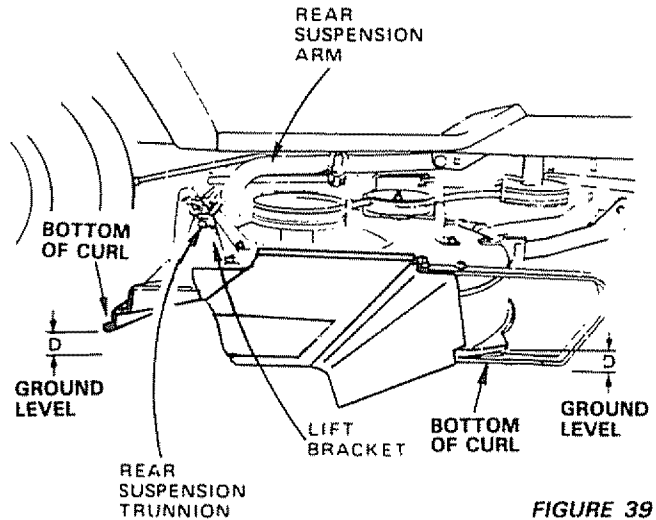

FIGURE 39
- To obtain the best cutting results, your mower housing should be adjusted so the front and rear flange distance "D" (Fig. 39) is 1/2" lower in front when the mower is positioned in the highest cutting position. NOTE: MEASURE DISTANCE "D" FROM GROUND LEVEL TO BOTTOM OF CURL ON RIGHT REAR FLANGE AND COMPARE TO DISTANCE "D" AT RIGHT FRONT FLANGE.